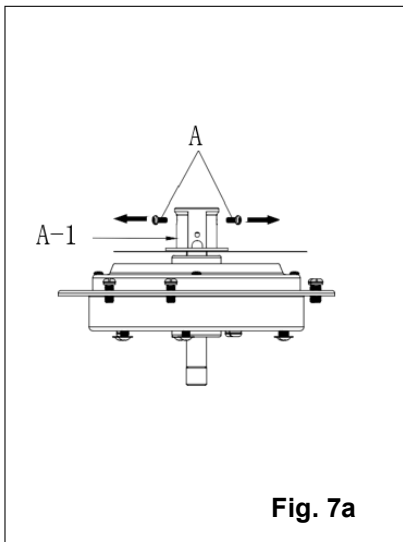

Fig. 7a
- Loosen the set screws (A) on the down rod coupling housing (A-1). **(Fig. 7a)**